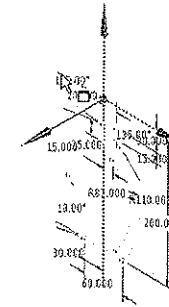
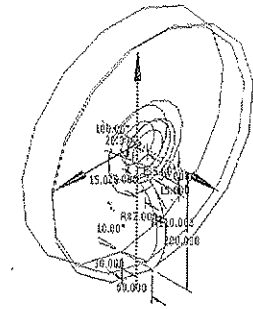

Figure 5-8 Selecting the X axis from the Graphics window
Figure 5-9 Preview of the revolved feature after specifying the axis of revolution
3. For this model, the material should be added by revolving the sketch about the X axis. Select the X axis from the **Graphics** window, refer to Figure 5-8. Figure 5-9 shows the preview of the revolved feature after the axis is specified.